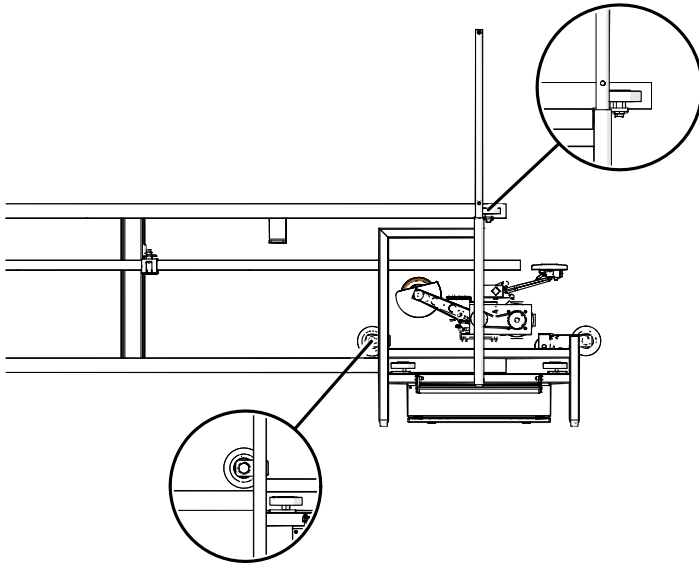

Fig. 12: Main roller and guide rollers in focus
6. Lower the fork until the first main roller touches the steel structure. Then push the cleaning device in driving direction until the guide rollers are inside the steel structure (Fig. 12).